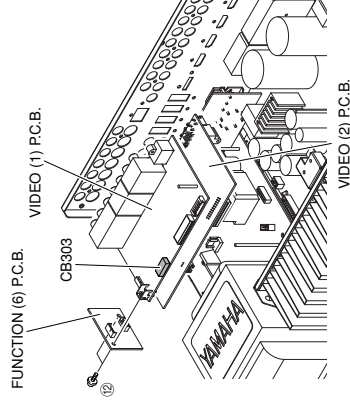

Fig. 4
6. Removal of VIDEO (1) and (2) P.C.B.s
- a. Remove 2 screws (12) and then remove the FUNCTION (6) P.C.B. which is connected directly to the VIDEO (1) and (2) P.C.B.s with board to board connectors. (Fig. 4)
- c. Remove CB303. (Fig. 4)
- d. Remove the VIDEO (1) P.C.B.. (Fig. 4)
- f. Remove the VIDEO (2) P.C.B.. (Fig. 4)